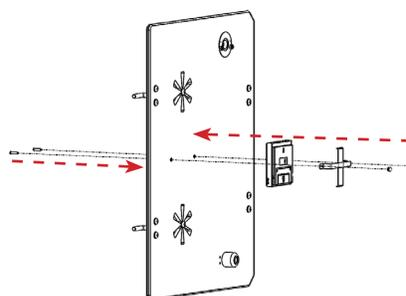

FIGURE 3.7 - Thermometer (Back View)
STEP 2: Reinstall the meter using the two screws and acorn nuts to secure the bracket and meter, ensure the meter display orientation is correct. See FIGURE 3.7